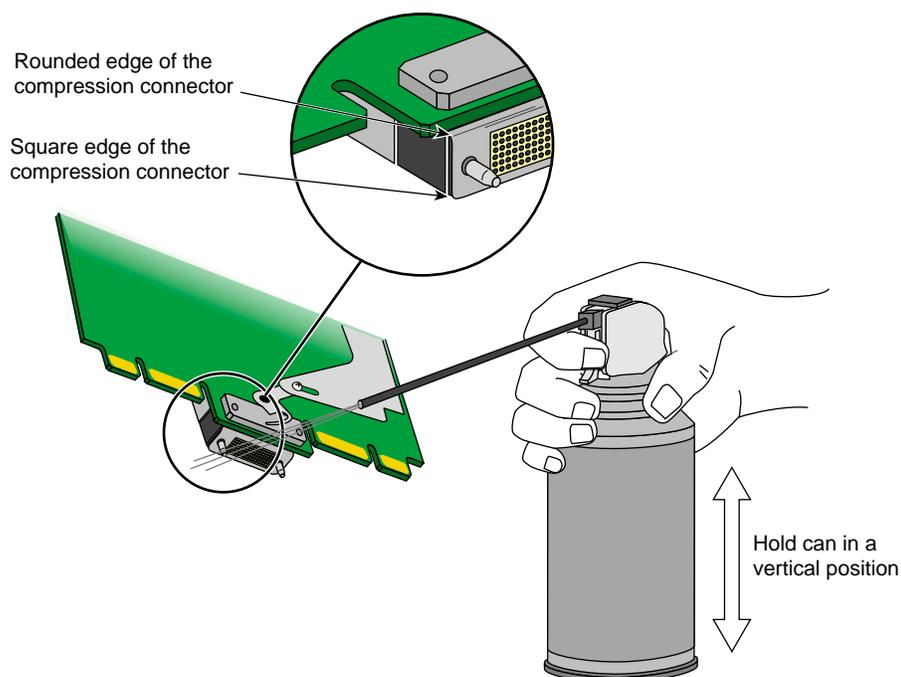

Figure 4-7 Position for Compressed Air Can When Cleaning Compression Connector
5. Position the XIO board at an angle to the can, so that the tip of the can's applicator is 1 to 2 inches away from the first (topmost) row of pads (as illustrated in Figure 4-7).